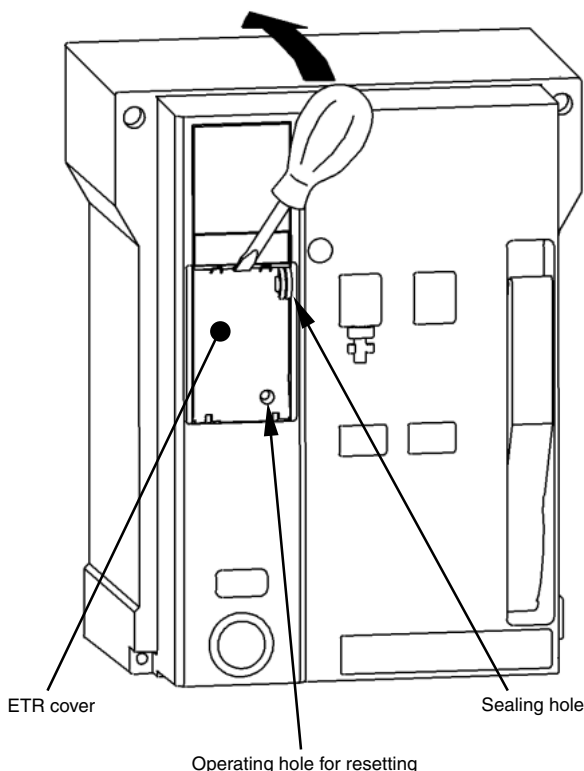

Fig. 27-1
- ① Prepare a small flat tipped screwdriver.
- ② Insert the flat tipped screwdriver into the opening of the ETR (Electronic trip relay) cover. Then, lightly turn the screwdriver to the upside as shown in Fig. 27-1, and the ETR cover will open.
- ③ The following two types of switches are used. Operate the switches in accordance with the following procedures.